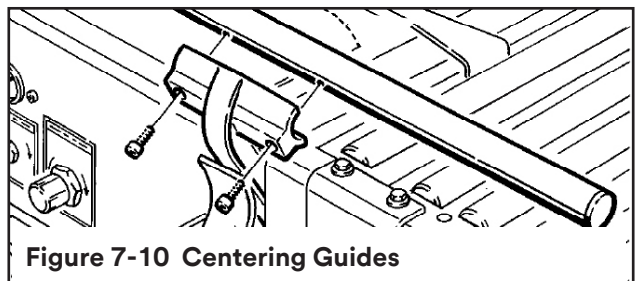

Figure 7-10 Centering Guides
1. Remove the two centering guides and four (4) M6 × 20 socket head screws from the package.
2. Using a 5mm hex key wrench, attach the centering guides to the rails with four (4) M6 × 20 screws (two [2] in each guide) as shown in **Figure 7-10**.